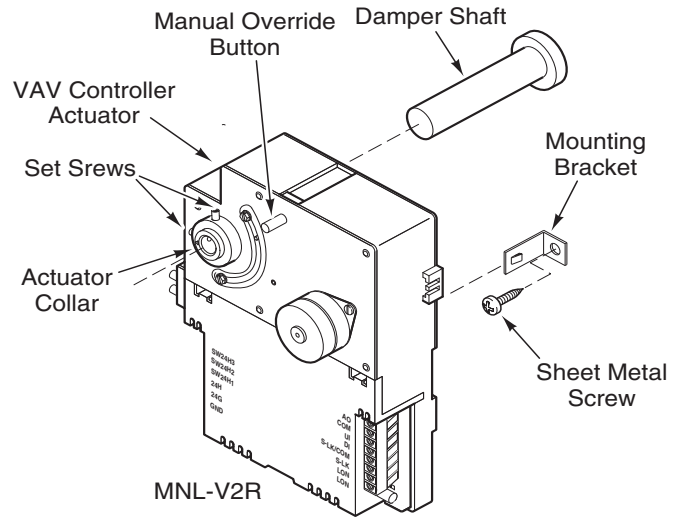

Figure-2 TAC I/A Series MicroNet VAV Controller Mounting.
1. Remove set screws from actuator collar (Figure-2).